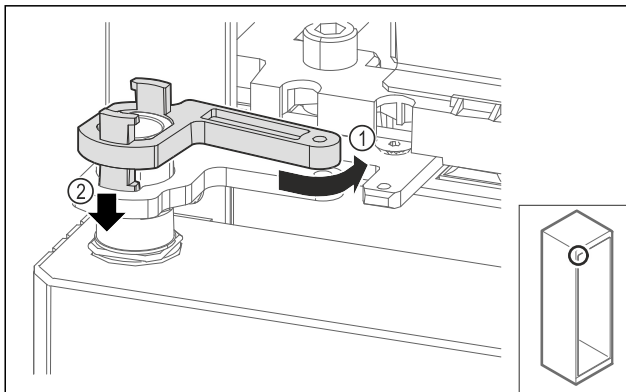

Fig. 71
- ▶ Turn the swap bearing block lock back slightly Fig. 71 (1), press it down Fig. 71 (2) and lock it at the hinge bracket.